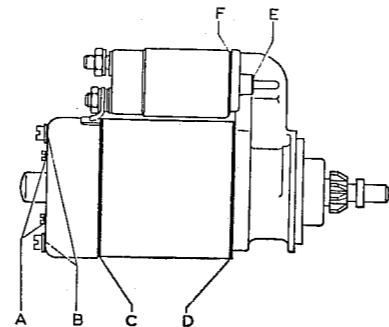

Fig. L.20. Seal the starter motor at the points indicated during assembly.
2. Put sealing compound around the joint (Fig. L 20).